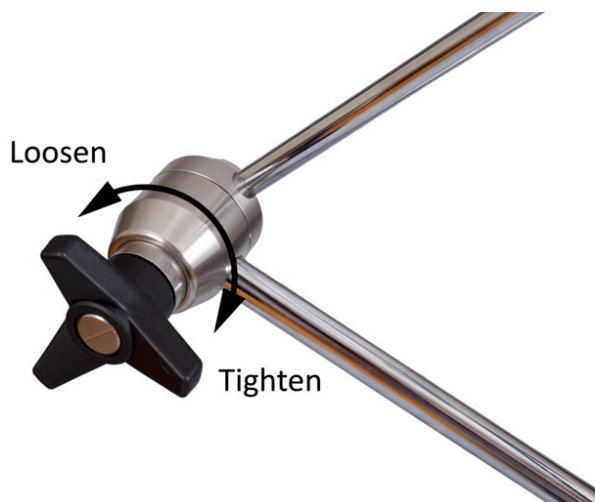

Fig. 34. Screw on holder arm.
18. To move a coil, loosen the screw on flexible arm (Fig. 34).